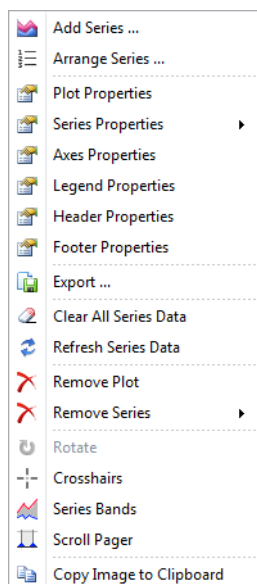
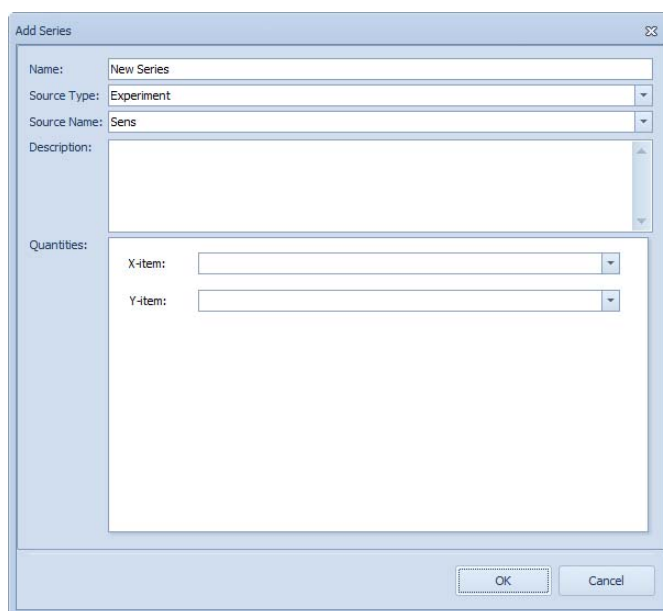

Figure 8.2 Plot sub-menu
Figure 8.3 Add Series dialogue window
- In the plot sub- menu (Figure 8.2), choose “Add Series”, to access the dialogue shown in Figure 8.3: